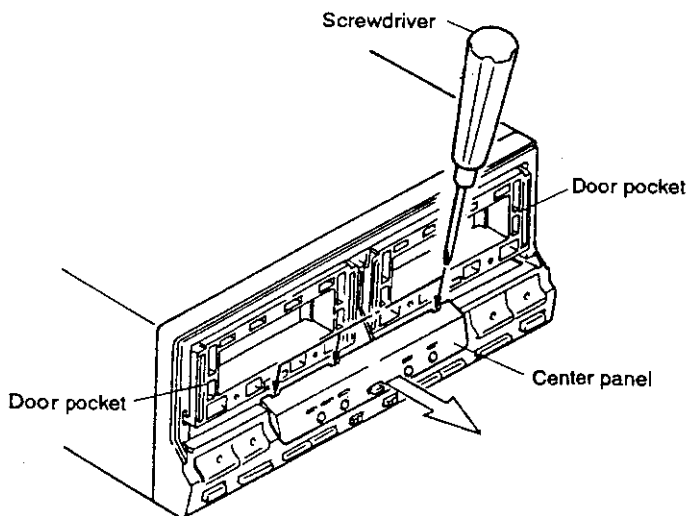

Fig. 8-5
3. Close the door pockets of DECK I and DECK II, and then insert a screwdriver in the slit of the center panel. Push the three hooks, and take off the center panel. (See Fig. 8-5.)